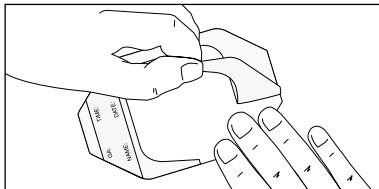

Fig. 2
3. Place without tension over site. Smooth down dressing edges while removing the frame (refer to Fig. 2).